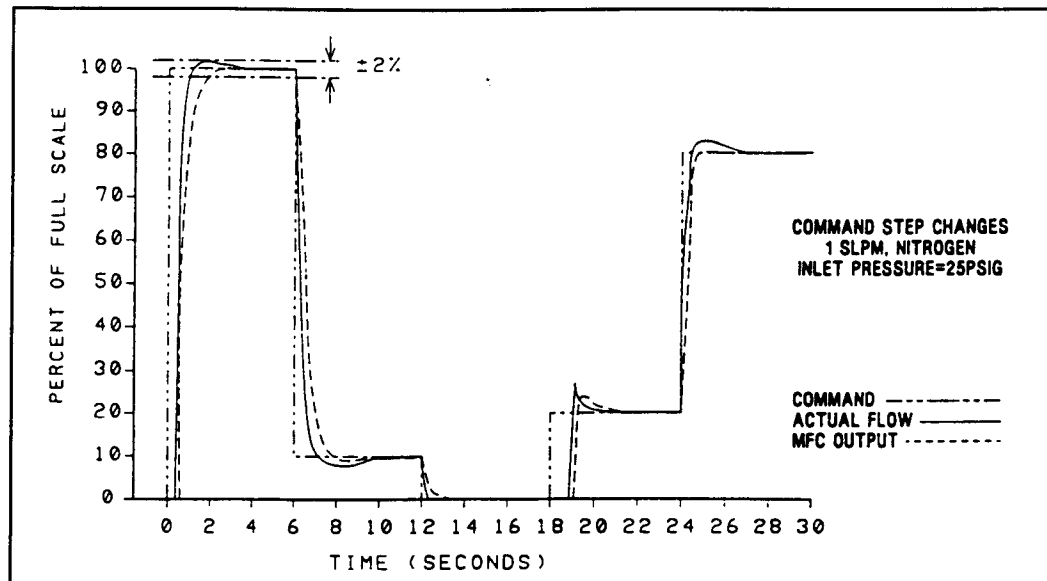

Figure 1-1. Command Steps, Soft Start Disabled
- FAST RESPONSE CONTROL permits rapid gas setting times with little or no over/undershoot. Refer to Figure 1-1.